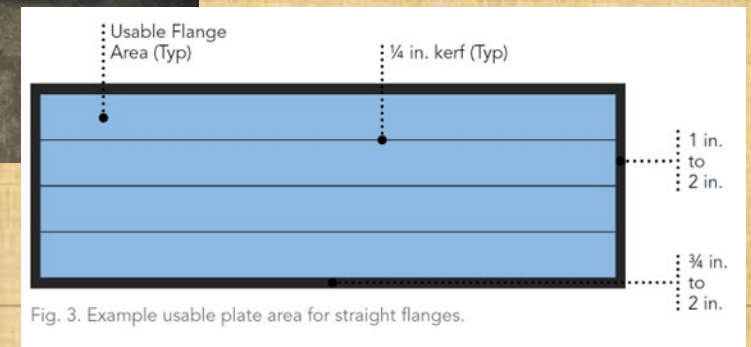

Fig. 3. Example usable plate area for straight flanges.
- Fabricators order plate with additional weight and length to account for cutting ($1/8$ " per cut between plates and along sides), plate sweep tolerance and waste (about $1/2$ " on each outside edge) (Fig. 3)